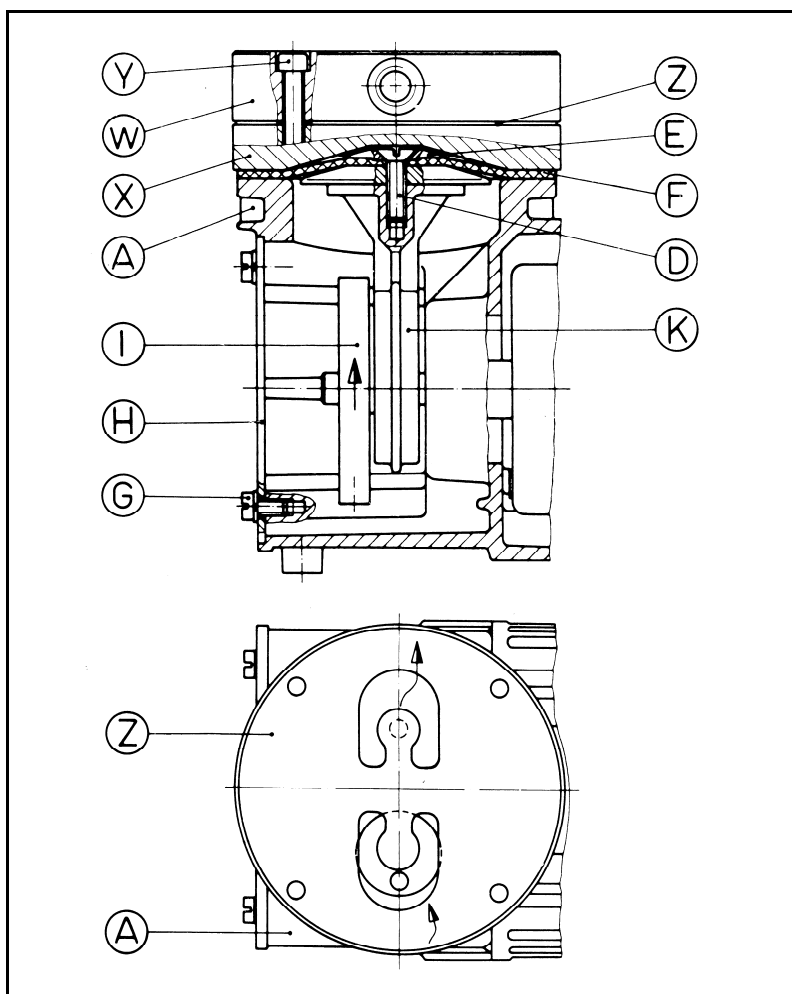

Fig. 7: Pump parts for versions with stainless steel head
**According to Fig. 7
10. Place the new valve plate Z on the intermediate plate X (for orientation: see fig. 7).
After diaphragm and reed valves (valve plate) have been replaced	➔ Check head connection and hose connections for leaks. ➔ Pumps N 22 A_.18 and N 026.1.2 A_.18: Possibly carefully tighten the screws (B) and (S) (see fig. 6) crosswise. ➔ Pumps N 22 S_.18 and N 026.1.2 S_.18: Possibly carefully tighten the screws (Y) (see fig. 7) crosswise.